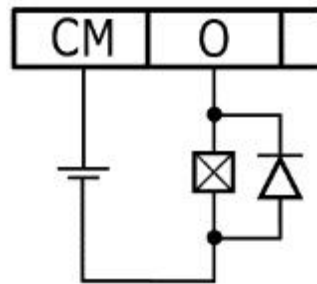

Figure 23. DC Load
- A clamping diode in parallel with each inductive DC load as shown in Figure 23.